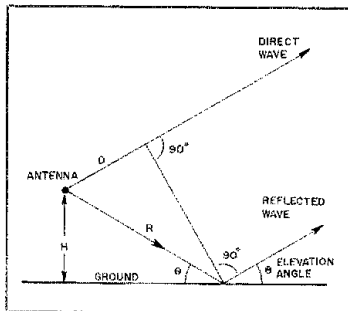

Fig. 5 — Effect of ground reflection.
Consider an antenna at a height (H) above a perfectly conducting flat ground, as in Fig. 5. If the distance (R-D) is an odd number of half wavelengths (1, 3, 5 . . .), then the direct and reflected waves will reinforce for a horizontally polarized antenna, but will cancel for a vertically polarized antenna. However, if (R-D) is an even number of half wavelengths (0, 2, 4 . . .), the reverse is true.